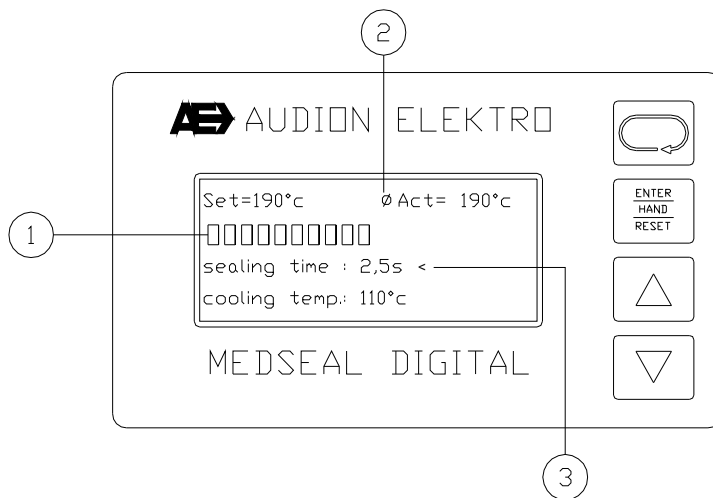

fig. 6
1. Heating to the set temperature ('Set' in fig. 6). In this phase the screen shows the following information:
- Temperature development based on the status bar (pos. 1 in fig. 6).
- The value of the temperature reached 'Act' (pos. 2 in fig. 6).
2. Maintaining the temperature during the sealing time set ('Sealing time' in fig. 6). In this phase the screen shows the following information:
- The status bar (pos. 1 in fig. 6) continuously shows the temperature reached.
- The arrow ' < ' (pos. 3 in fig. 6) indicates the time that has passed since the sealing temperature was reached.
3. Cooling down to set cooling temperature with seal bars closed ('Cooling temp' in fig.6). In this phase the screen shows the following information: